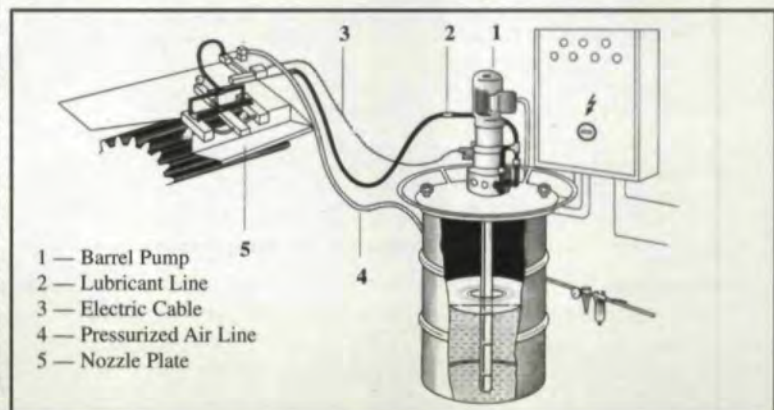

Fig. 14 — Spray lubrication system with barrel pump.
- Spray lubrication systems with drum pumps (Fig. 14).